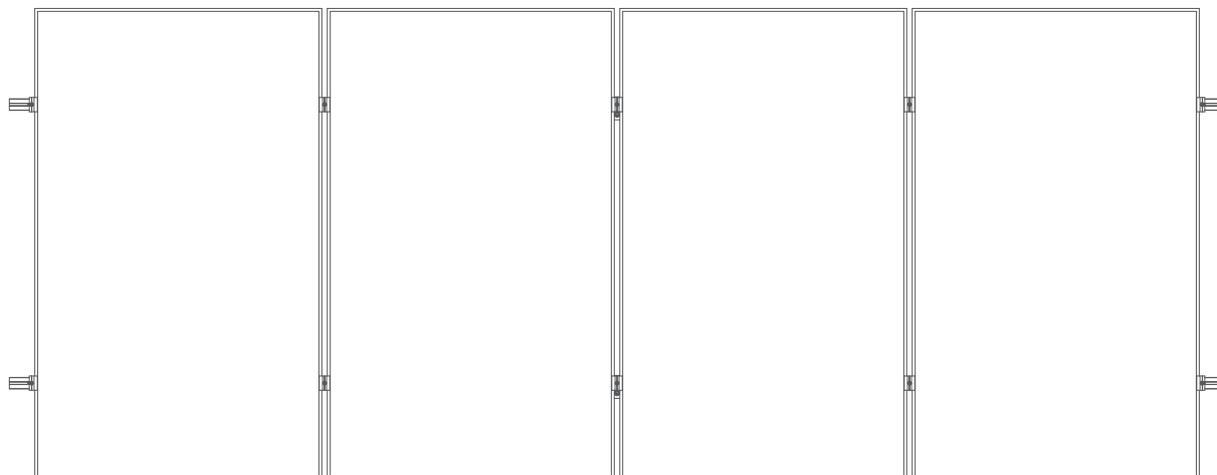
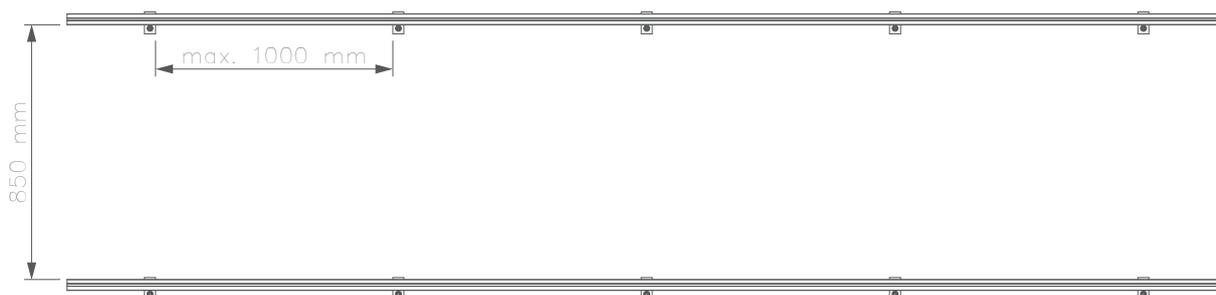

Fig. 1. module placement plan
Fig. 2. placement of mounting rails with double threaded screw
- 1 Before mounting, it is necessary to determine the distribution plan of the modules on the roof (Fig. 1). This is the basis for the distribution of the mounting rails with all accessories (Fig. 2).
- 6** Before mounting the set, you must determine the module layout plan on the roof (Fig. 1). This is the basis for the distribution of the mounting rails with all accessories (Fig. 2).